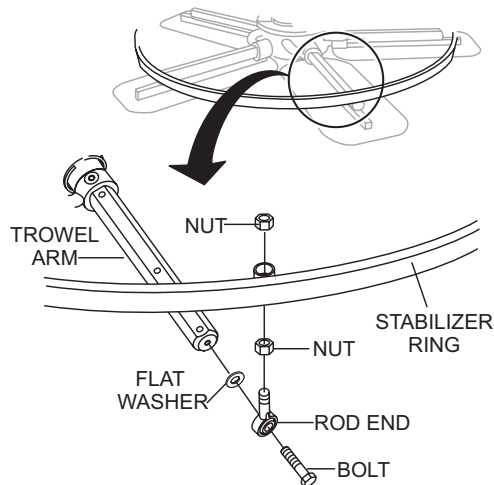

Figure 43. Stabilizer Ring
1. Remove the hardware securing the stabilizer ring to the trowel arm (Figure 43).